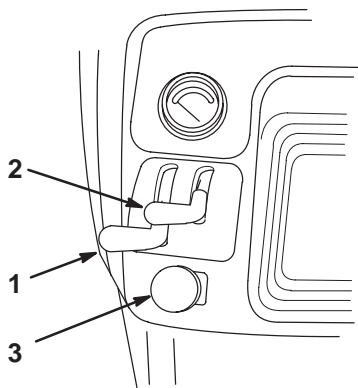

Figure 12
3. Push the PTO switch to the off position (Fig. 12).
4. Move the choke lever to the on position (if the engine is cold) (Fig. 12).
5. Move the throttle lever halfway to the fast position (Fig. 12).
8. After the engine starts, move the choke lever to the off position (Fig. 12).
1. Move the throttle lever to the slow position (Fig. 12).